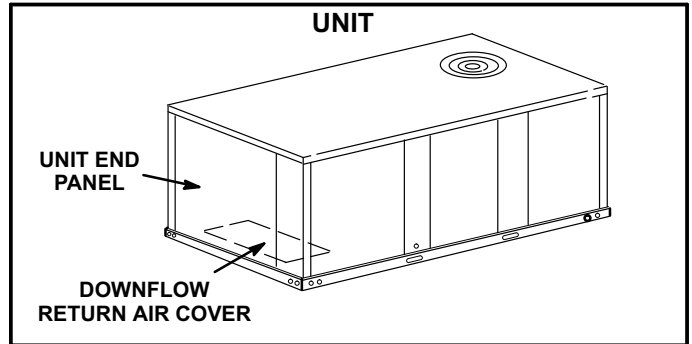

FIGURE 5
- 1- Remove unit end panel. See figure 5.
- 2- Install the downflow return air cover in horizontal airflow applications. See instructions provided with K1HECK and figure 5.